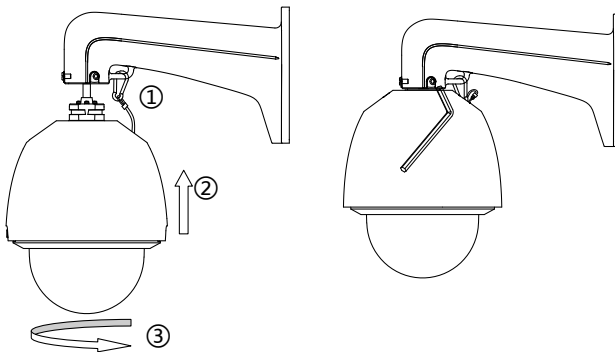

Figure 1-15 Install the Speed Dome
1. Hang the safety rope to the speed dome and then hook to the mount as shown in Figure 1-15(left).
5. Fasten the two lock screws with the Allen wrench, as shown in Figure 1-15(right).